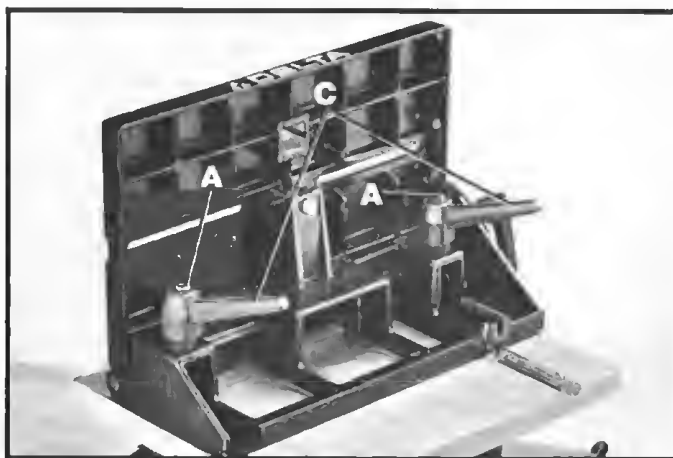

Fig. 5
8. Replace the locking handles (C) Fig. 5, spring and screw (A) to shaft assemblies. These items were removed in **STEP 4**. Tighten handles (C) to lock the table in position. **IMPORTANT: WHEN TIGHTENING TABLE LOCK HANDLES (C) ALWAYS TIGHTEN THE RIGHT HAND HANDLE FIRST TO INSURE TABLE IS LEVEL ON BOTH SIDES. NOTE:** Lock handles (C) are spring loaded and can be repositioned by pulling out on the handle and repositioning it on the serrated nut located underneath the hub of the handle.